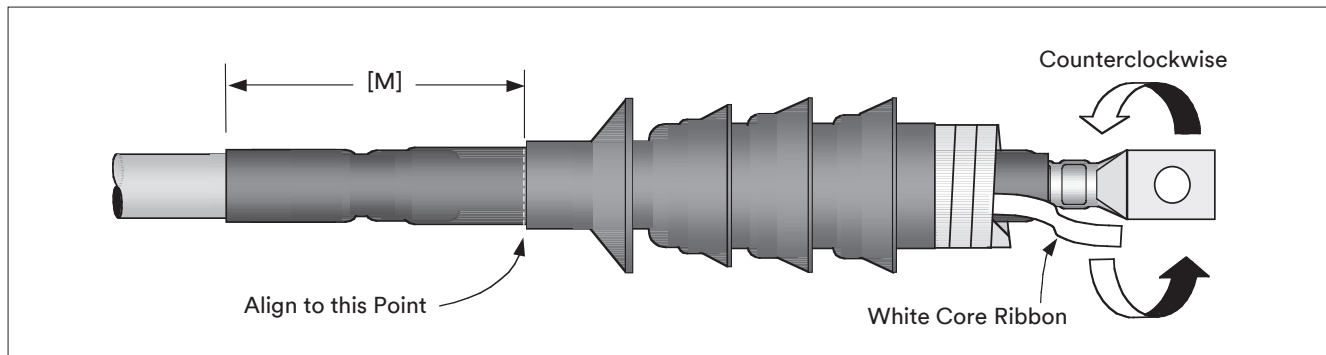

Figure 24
- Position skirted insulator over previously installed tubular termination as shown (Figure 24).
- Align skirted insulator body (not the core) to install Dimension [M] from base of tubular termination (Figure 24).
- Grasp the loose white core ribbon (Figure 24). Pull the core while unwinding, counterclockwise, starting with the loose end (Figure 24). Be sure to alternate the pulling and unwinding actions (pull-unwind-pull-unwind-etc.) to help prevent the core material from binding up as the core is being removed.